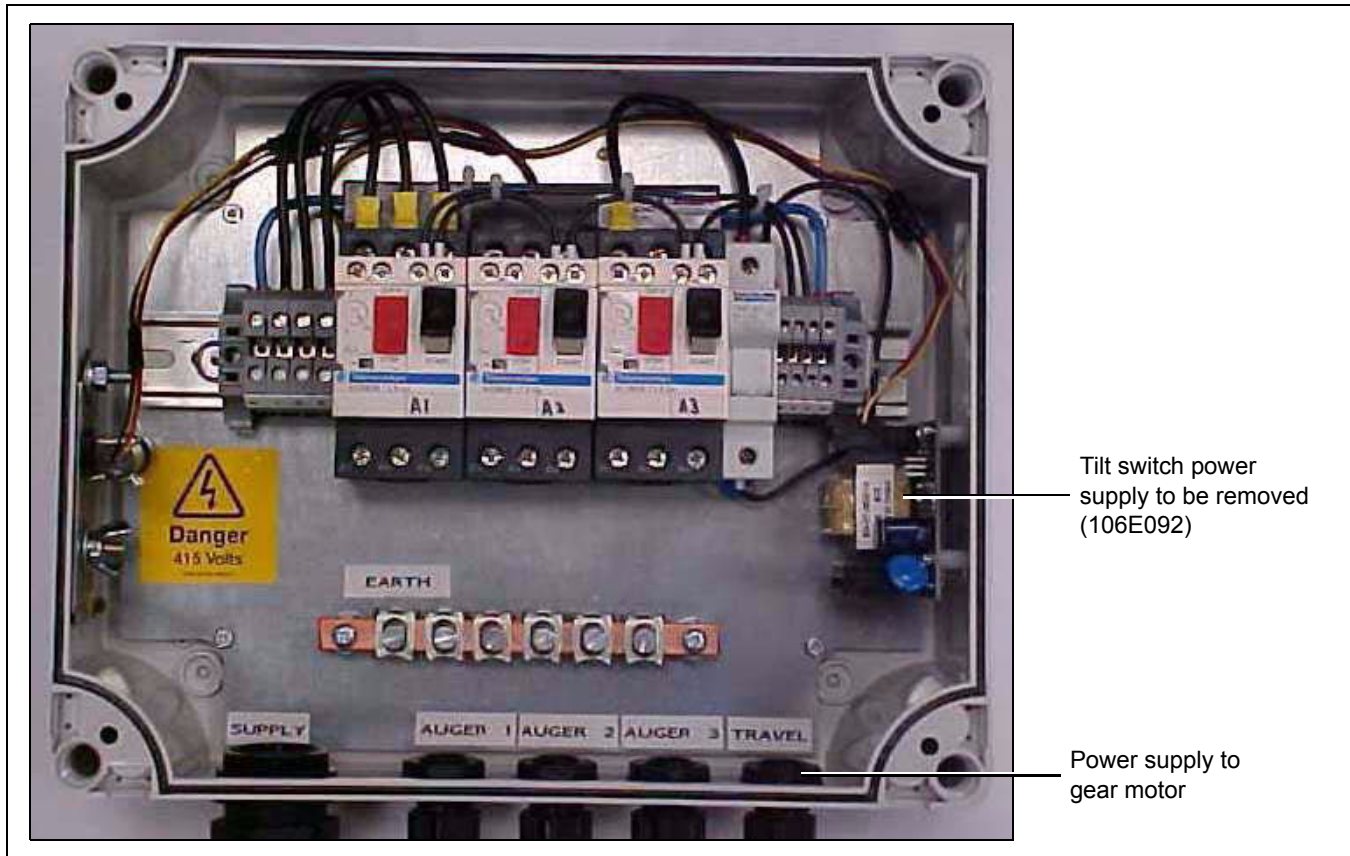

Figure 3
3. Open the front panel on the beam box and remove the four (4) bolts holding it in place. Remove the beam box from the bracket.
4. Remove the four (4) bolts holding the tilt switch circuit board in place. Remove the circuit board and the tilt switch itself from the bracket.
7. Within the beam box, disconnect the tilt switch and power supply by disconnecting the wires labeled in Figure 3.
13. Connect the wires back to the terminal block as they were previously. (See Figure 3.)